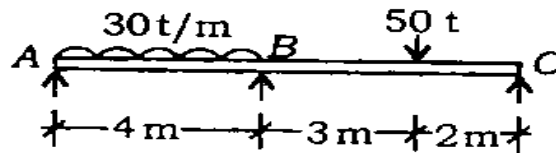

Fig. 6
6. (a) A steel beam ABC carrying working loads, as shown in Fig. 6, is simply supported at A, B and C. Calculate the minimum value of section modulus using plastic analysis. Adopt load factor of 1.85 and yield stress = 2500 kg/cm^2 .